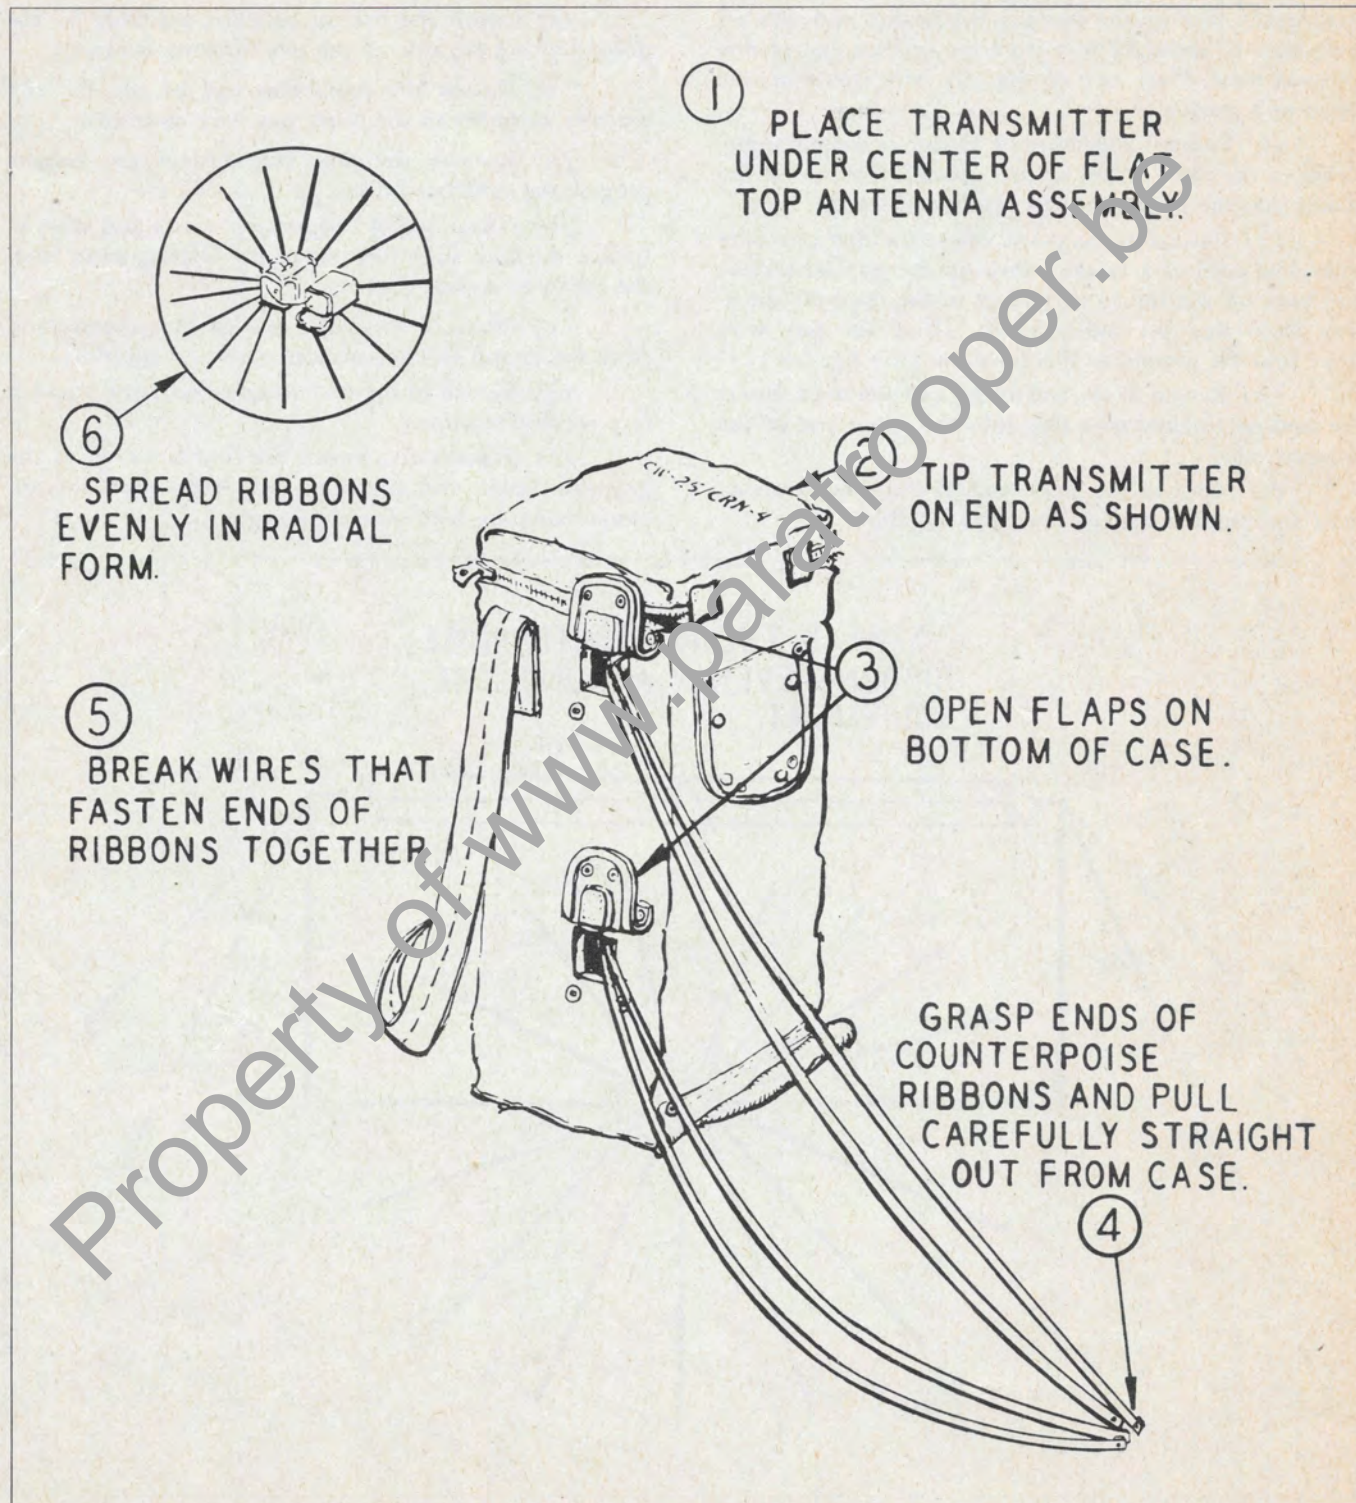

Figure 2-8. Spreading of Counterpoise Ribbons
(1) Place the transmitter on one end directly beneath the center of the flat top assembly as shown in figure 2-8.
(2) Open the two small flaps on the under side of the transmitter carrying case.
(3) Pull the four groups of ribbons from the transmitter. Grasp the ribbons and walk away from the transmitter until the ribbons are completely extended.
(4) Break the wires that fasten the ends of each group of four ribbons together.
(5) Spread the ribbons as shown in figure 2-8. Do this by walking in a circle around the transmitter and dropping one ribbon at a time until all are spread.